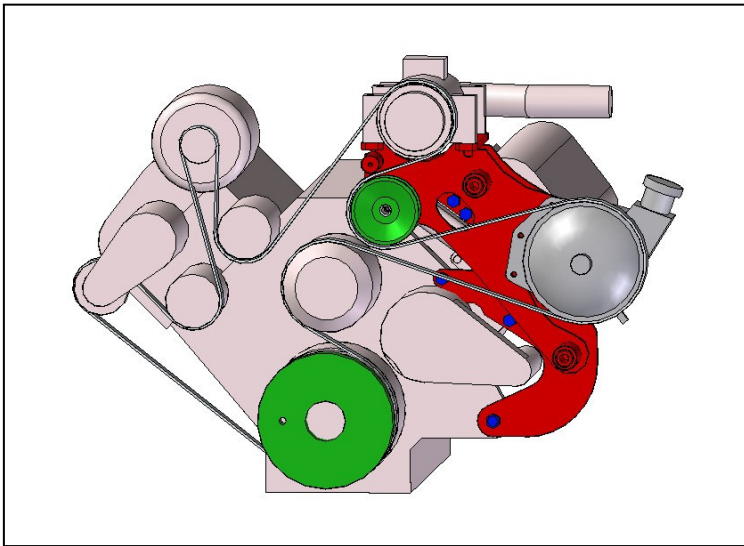

Figure 1
Figures 1 and 2 show the Raven components to be installed and their mounting locations. *We suggest you take a minute before proceeding to review the steps below to familiarize yourself with the parts and their mounting locations.*
12. Using the supplied hardware, install the Raven base bracket in its place, leading with the 'hook' end and rolling the bracket into position. (It *will* fit, this may be a two-person job. As you are rotating the bracket into place, adjust the routing of the power steering hoses as necessary). Fasten with (4) M10 bolts and (1) M14 bolt. See **Figure 1**.
15. Install the supplied replacement serpentine belt (GM Part # 97300655) on the OEM belt train. See belt routing in **Figure 1**.